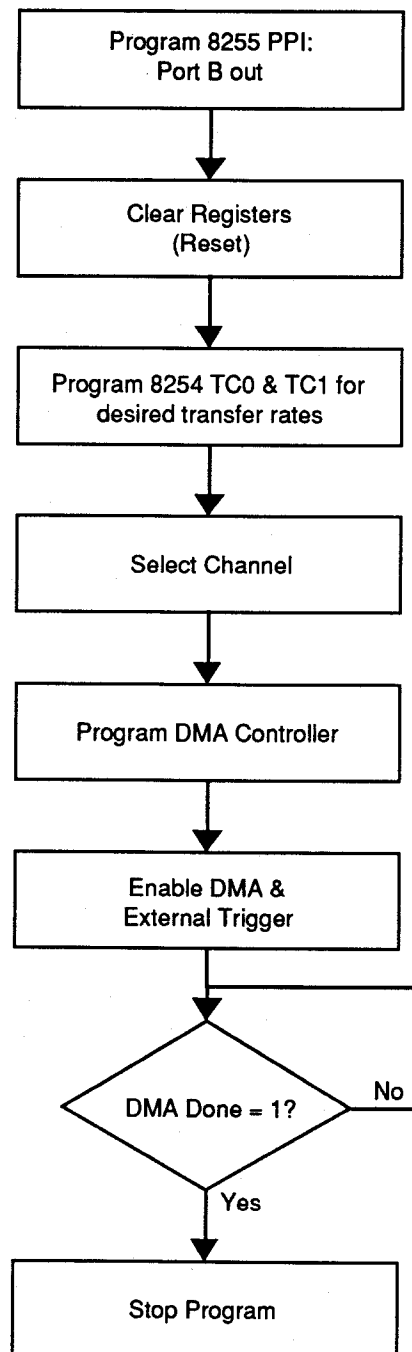

Fig. 4-5 — DMA Flow Diagram
• **DMA Flow Diagram (Figure 4-5)**